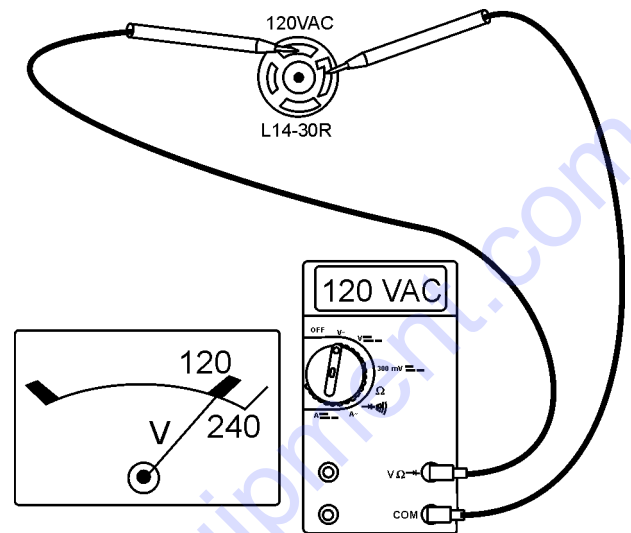

**Figure 24. 240V Receptacle**
11. Read voltmeter on front panel of generator (Figure 24) and verify that 240 VAC is displayed. Using an external voltmeter as shown in Figure 24, verify that 240 VAC is present at the 240V twist-lock receptacle.